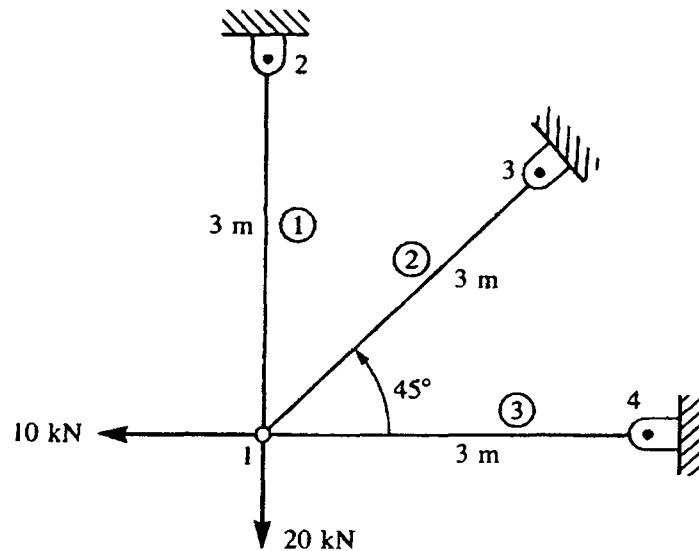

Figure Q3[a]
- Q3. [a] For the plane trusses shown in Figure Q3[a], determine the horizontal and vertical displacements of node 1 and the stresses in each element. All elements have $E = 210 \text{ GPa}$ and cross sectional area, $A = 4.0 \times 10^{-4} \text{ m}^2$.